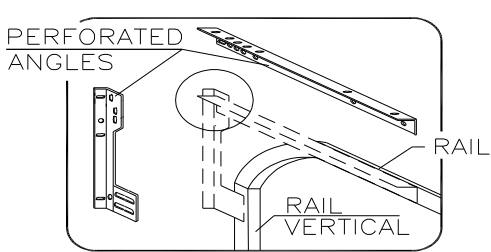

Figure 8
- Fasten the horizontal track to the support bracket of the vertical track using two (2) bolts with locks washers and nuts (figure 8)
- Join the vertical track with the curve of the horizontal track using two (2) rib neck bolts 5/16" x 3/4". When some high-lift tracks come in three parts (instead of two), the same type of rib neck bolts are used to attach the different parts of tracks together. (Figure 8)